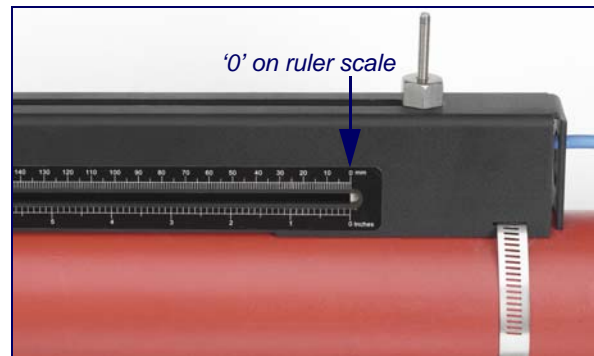

Figure 2.11
- Carefully slide the downstream transducer assembly along the guide rail until the inner face of the transducer is aligned with the '0' mark on the ruler scale (Figure 2.11).